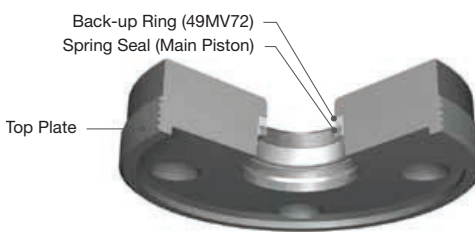

Figure 30: Top Plate Image with Back-Up Ring
- (i) Lubricate the Spring Seal (Main Piston) and Top Plate gland. Install the Spring Seal (Main Piston) into Top Plate. The spring should be oriented as shown in Figure 30.
- (iii) Lubricate Spring Seal (Main Piston) and Top Plate gland. Install Spring Seal (Main Piston) into the Top Plate. The spring and back-up rings should be oriented as shown in Figure 30.